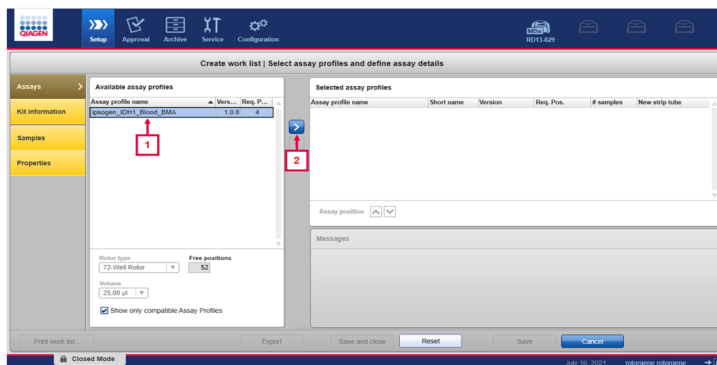

Figure 9. “Create work list” window. Box 1 indicates Assay profile to select. Box 2 indicates how to select chosen assay profile.
8. To perform an IDH1 run, ensure that the **Assays** tab is selected. Click the **ipsogen_IDH1_BMA_MDx** assay profile in the “Available assay profiles” window (Figure 9, indicated by box 1) and click the **blue arrow** to select the assay profile (Figure 9, indicated by box 2). Move the mouse pointer over the assay profile to see the full name if required. The assay profile should now appear in the “Selected assay profiles” window (Figure 9).